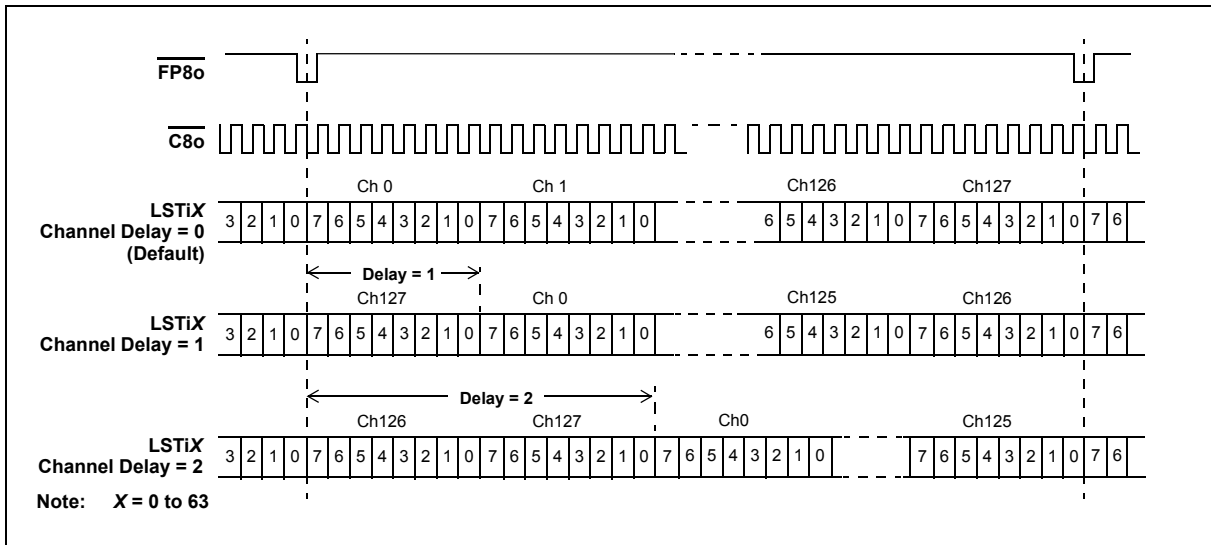

Figure 13 - Local Input Channel Delay Timing Diagram
The local input channel delay programming allows all local input streams to have a different frame boundary with respect to the local frame pulse ($\overline{F8o}$). It is enabled when the LICDEN bit in the control register (CR) is high. The local input channel delay registers (LICDR0 - LICDR31) allows the users to delay the input channel from 0 to 127 channel for every local input stream. Figure 13 describes the local channel delay timing with different delay values.